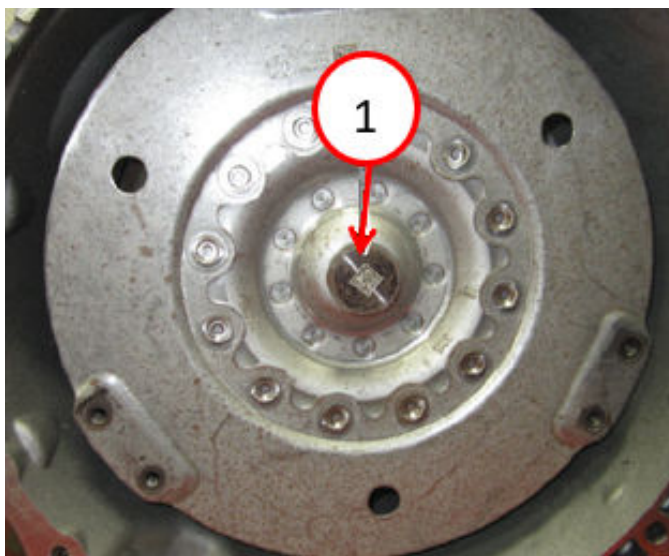

Fig. 56
85. Install the torque converter Fig. 56 (Refer to 21 - Transmission and Transfer Case/Automatic/Torque Converter/ Installation).